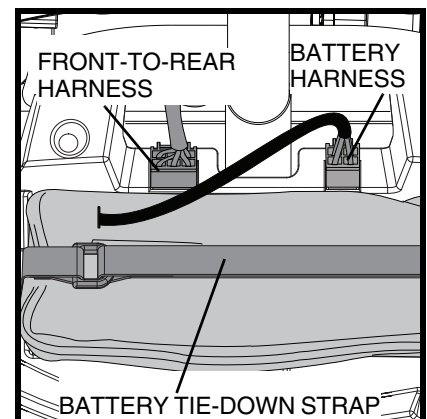

Figure 23. Harness Connections
5. Disconnect the battery harness. See figure 23.
6. Disconnect the front-to-rear harness. See figure 23.